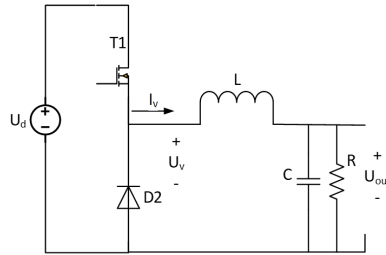

Figure 1.5: Step-down (buck) DC/DC converter.
In this assignment, a step-down DC/DC converter (the schematic is shown in Figure 1.5) shall be designed for the supply of a 12 V resistive load of 240 W from a DC source of 36 V. The switching frequency is 10 kHz. The inductance is determined in the preparation task (Section 1.1.1) corresponding to continuous operation at rated load for 36 V input. The output capacitance is also determined in the preparation task, corresponding to 10% output voltage ripple at rated load and 36 V input voltage.
The block Multiply-Add (HDL coder/HDL Operations) is used. The sawtooth carrier V_{tri} is then compared with the Constant D , which defines the duty cycle, to generate the gate pulse for the buck converter switch (T_1 in the schematic shown in Figure 1.5). The comparator is a block, Relational operator in Simulink/Logic and bit operations. A Data Type Conversion in Simulink/Signal Attributes of the gate pulse is required to fit the input (g) for the Buck Converter block in Simscape/Power Systems/Specialized Technology/Fundamental Blocks/Power Electronics.
The Buck Converter block has its high voltage DC-side connections indicated by (+) and (-). The DC Voltage Source (Simscape/Power Systems/Specialized Technology/Fundamental Blocks/Electrical Sources) is connected. The blocks can be mirrored by right-hand clicking the block and selecting rotate and flip. The low voltage (switched) output, corresponding to U_v in Figure 1.5, is marked by (1).